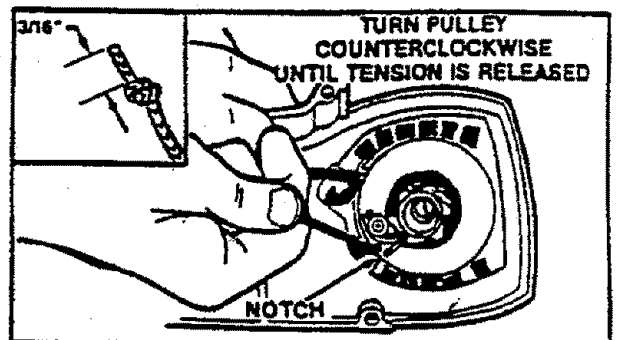

Figure 40
5. If starter rope is not broken, release the spring tension by pulling about 10 inches of rope from the pulley and catch the rope in the notch as shown. Figure 40. Turn the pulley counterclockwise until the spring tension is released.
10. Insert one end of the rope through the handle and secure with a knot. Leave $\frac{3}{16}$ " pigtail behind knot. Figure 40 (inset).